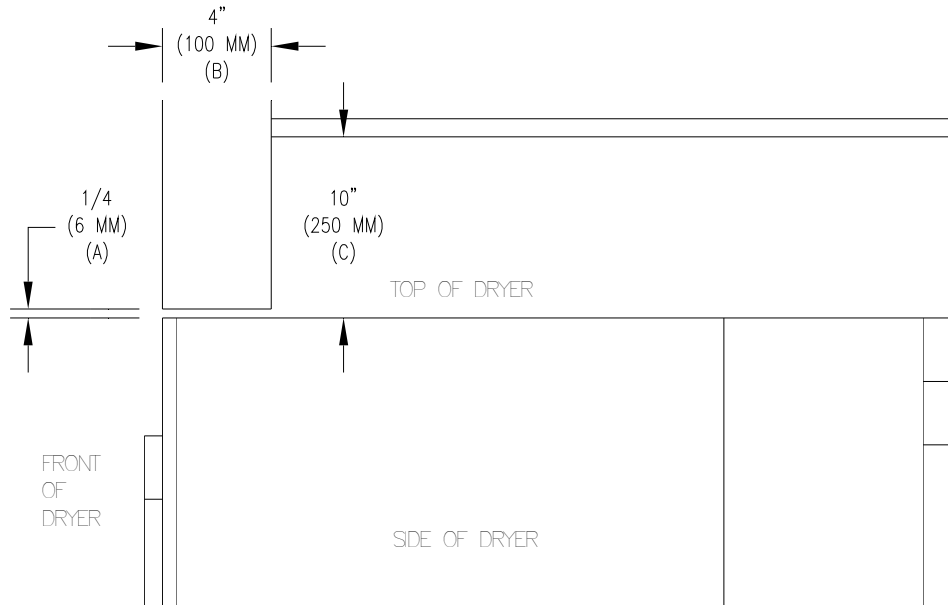

FIGURE 2— Vertical Clearance Dimensions
- V. Top Refer to Figure 2 labeled "Vertical Clearance Dimensions".